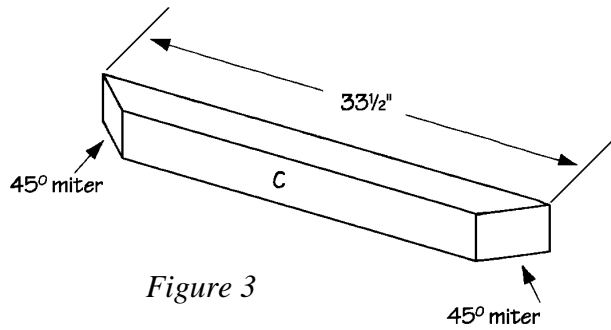
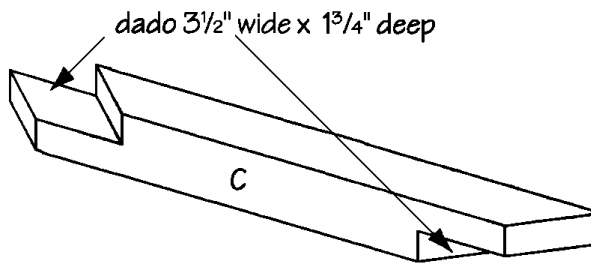
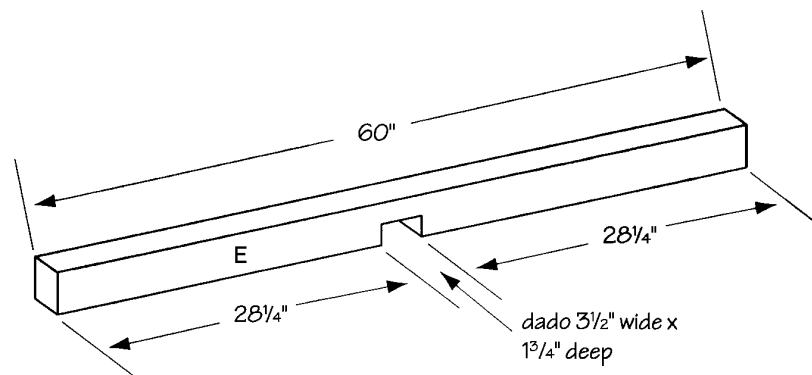

Figure 3
Figure 4
Figure 5
6. Cut one front brace (C) from 4 x 4 pine, measuring 33-1/2" long.
7. Miter both ends of the front brace (C) at opposing 45-degree angles, as shown in *Figure 3*.
8. Cut two opposing diagonal dados in the front brace (C), 3-1/2" wide and 1-3/4" deep, as shown in *Figure 4*.
9. Cut two side braces (D) from 4 x 4 pine, each measuring 12" long.
10. Miter both ends of the side braces (D) at opposing 45-degree angles in the same manner as you did with the front braces (C), shown in *Figure 3*.
11. Cut one footing (E) from 4 x 4 pine, measuring 60" long.
12. Follow *Figure 5* to cut a 3-1/2"-wide dado, 1-3/4" deep, in the center of the footing (E).